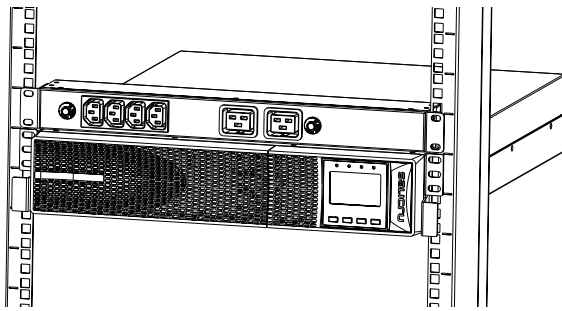

Fig. 11. Rack-type mounting in a 19" cabinet with PDU.
- Proceed as follows (see Fig. 11):